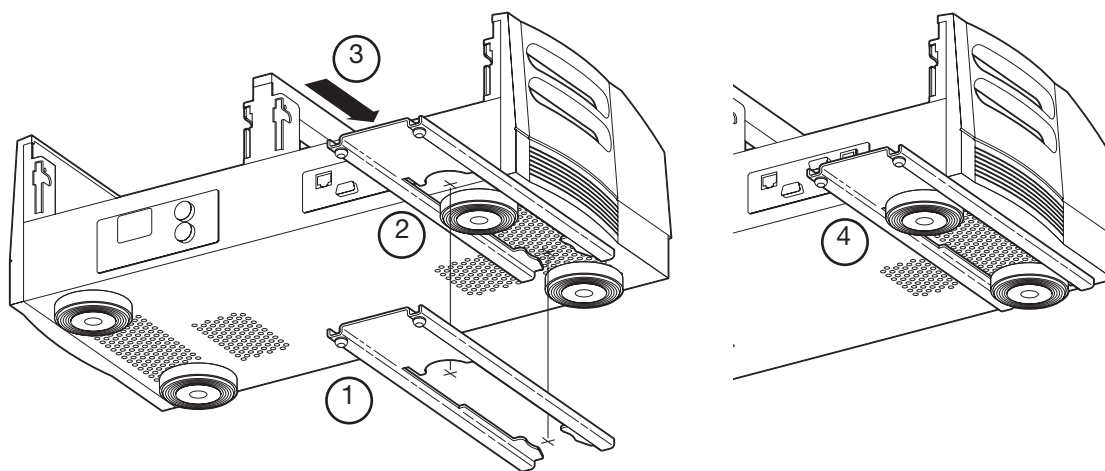

Figure 3-2. Base-stabilizer bar for the Dyad Disciple base
2. Orient one base-stabilizer bar so that its feet are down and the gap faces the front of the cycler base (refer to Figure 3-2, step 1).
3. Center the stabilizer bar over one rear foot the instrument, such that the foot fits through the hole in the stabilizer bar and the top of the stabilizer bar is flush against the cycler base (Figure 3-2, step 2).
4. Gently push the stabilizer bar toward the front of the cycler, so that the gap rests against the front foot of the instrument. Make sure that the bar remains flush with the cycler along its entire length (Figure 3-2, step 3).
5. Firmly push the stabilizer bar forward so that the gap snaps around the front foot of the cycler. The bar should now be locked into position (Figure 3-2, step 4).